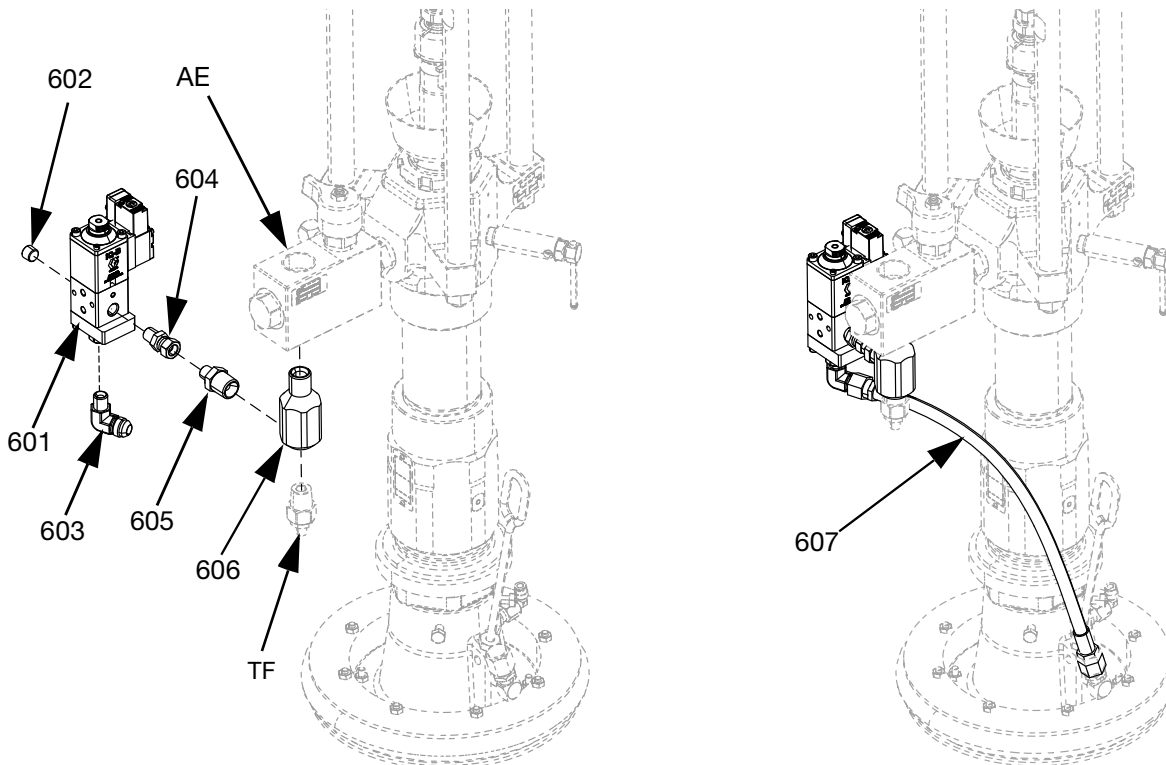
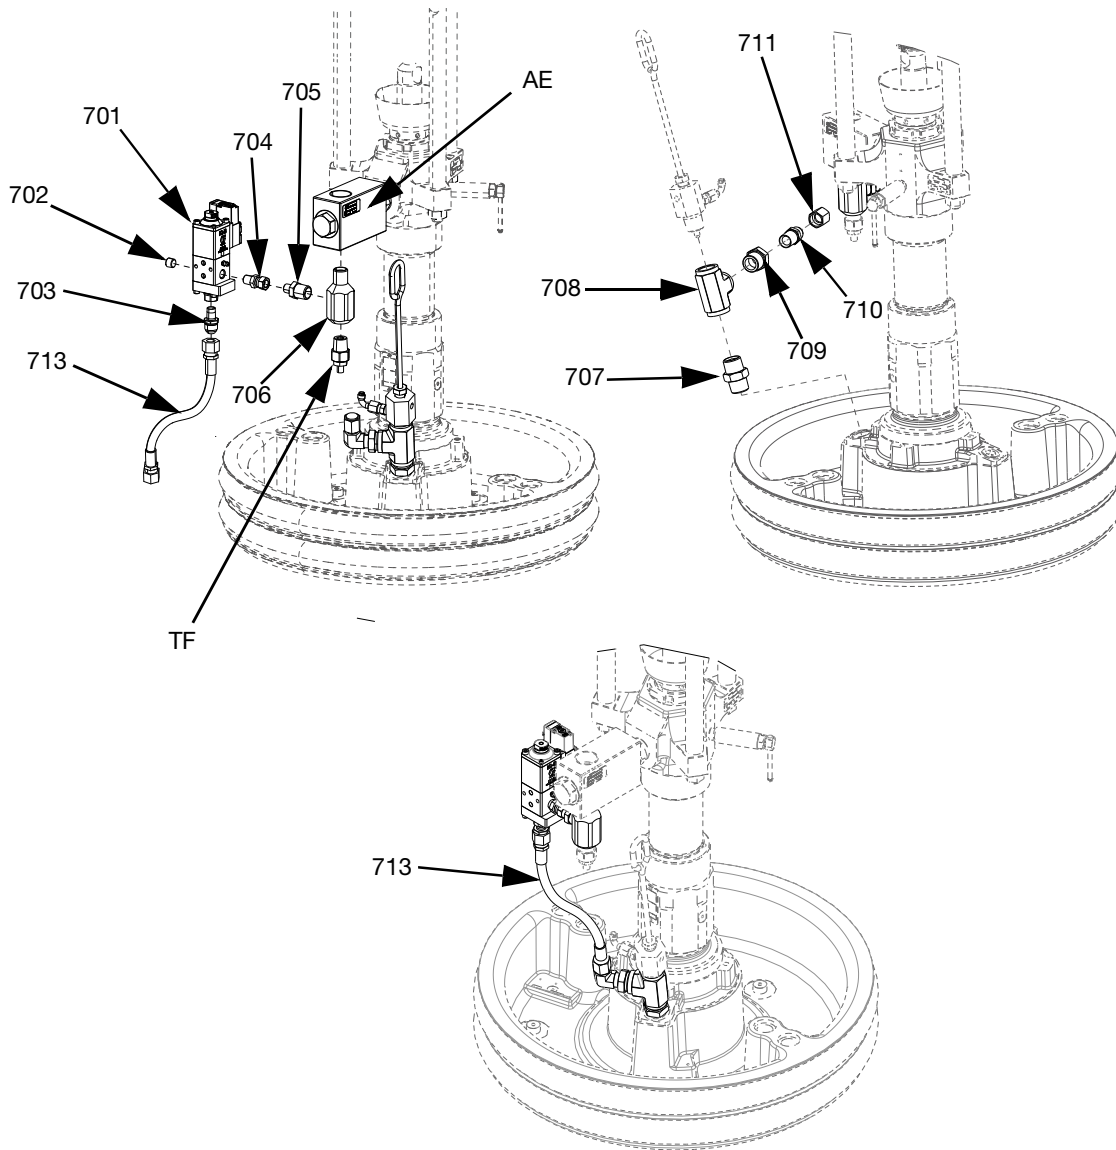

FIG. 69: Platen Valve Kit, 25R452
Fig. 73: Platen Valve Kit, 25R453
2. Disconnect the pressure transducer from port 5 on the Electric Driver (AB).
3. Remove the pressure transducer fitting (TF) and the fitting it is attached to from the Fluid Check Valve (AE).
4. Using thread tape, install the 1/2 NPT tee fitting (606) into the Fluid Check Valve (AE), then reinstall the pressure transducer fitting (TF) into the bottom of the 1/2 NPT tee fitting (606).
5. Using thread tape, install the 1/4 NPT x 1/2 NPT adapter (605) into the 1/2 NPT tee fitting (606). See FIG. 69.
6. Install the platen valve (601) onto the 1/4 NPT fitting (606) using the swivel fitting (604), then tighten.
7. Install the recirculation hose (607) onto the platen valve (601) and tighten.
8. Reconnect the pressure transducer to port 5 on the Electric Driver (AB).
4. Using thread tape, install the 1/2 NPT tee fitting (706) into the Fluid Check Valve (AE), then reinstall the pressure transducer fitting (TF) into the bottom of the 1/2 NPT tee fitting (706).
5. Using thread tape, install the 1/4 NPT x 1/2 NPT adapter (705) into the 1/2 NPT tee fitting (706). See FIG. 69.
6. Install the platen valve (701) onto the 1/4 NPT fitting (706) using the swivel fitting (704), then tighten.
7. Install the recirculation hose (713) onto the platen valve (701) and tighten.
9. Remove the Bleed Stick (EF) and Bleed Port (EG), and install the fittings (707, 708, 709, 710, 711) as shown in FIG. 73.